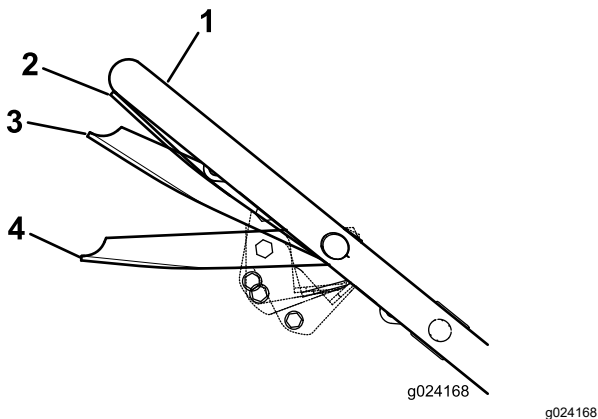

Figure 17
3. Squeeze the blade-control bar against the handle to the Run/Drive position (Figure 17).
the Run/Shift position (Figure 17) whenever you change the ground speed.